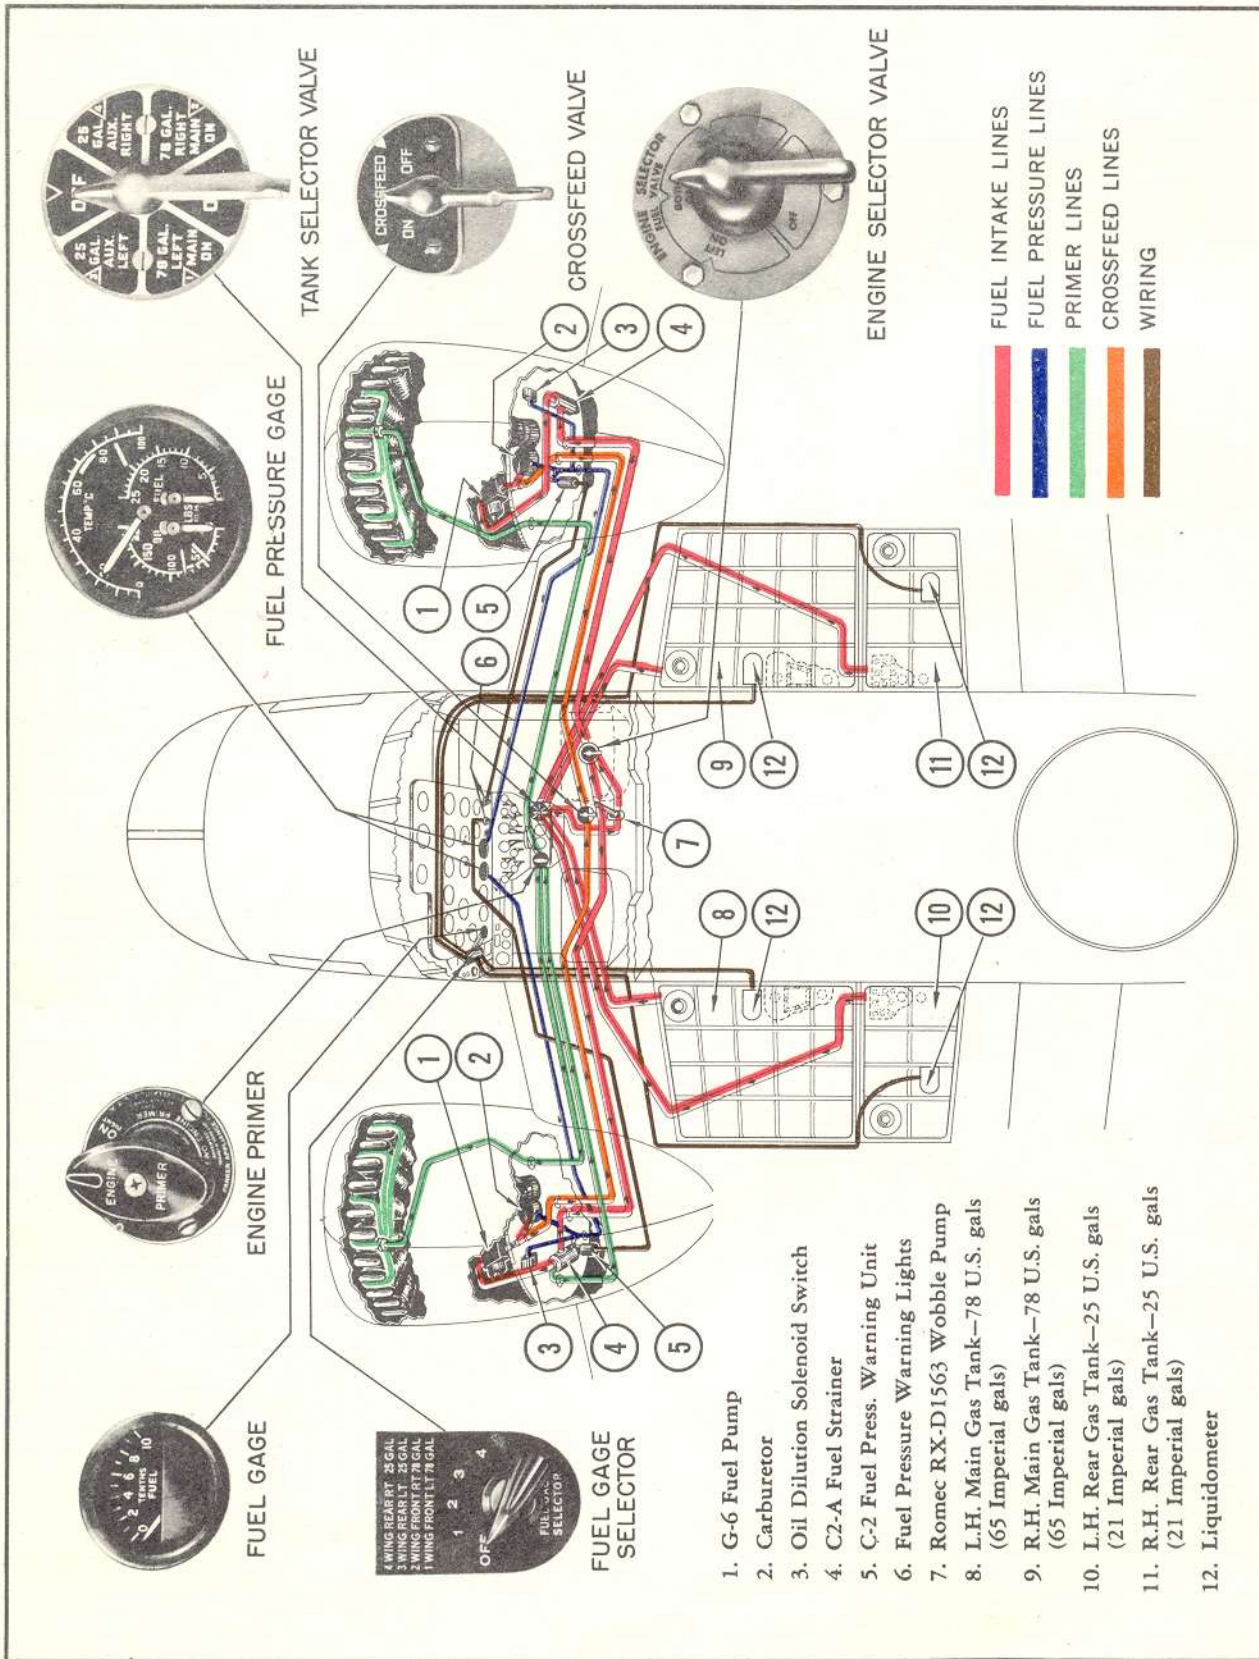

Figure 5—Fuel System Diagram, AT-11 and SNB-1
f. FUEL SYSTEM (See figure 5.)—The two main tanks, each with a capacity of 78 U.S. (65 Imp.) gallons are located in the center section, one on each side just outboard of fuselage. Two auxiliary tanks, each with a capacity of 25 U.S. (20.8 Imp.) gallons, are also located in center section, one immediately aft of each main tank. All tanks have electrically operated liquidometer gages. A tank selector valve, wobble pump, cross-feed